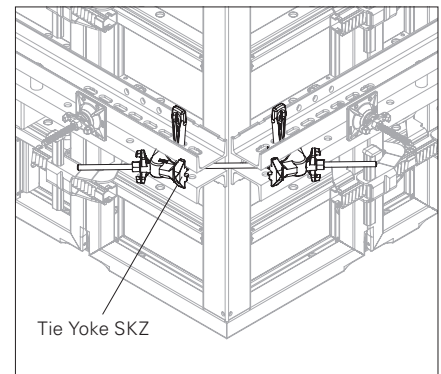

Fig. B1.06c
The outside corner can also be implemented with the Tie Yoke SKZ (article no. 024210) instead of the waler stop (86) and anchor tie yoke (87). For assembly, see the Instructions for Assembly and Use for VARIO GT 24 Girder Wall Formwork. (Fig. B1.06c)